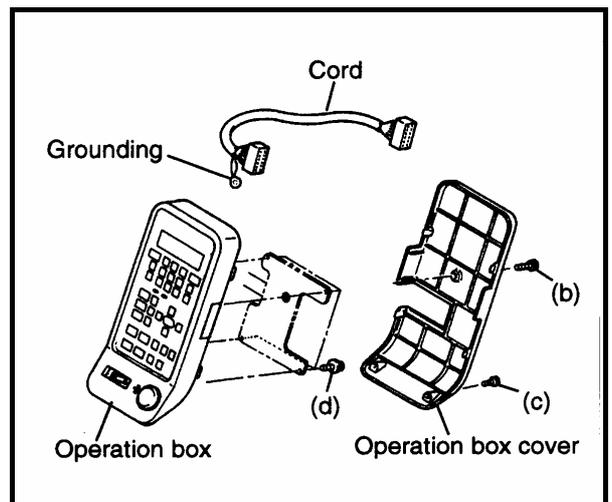

FIG.2
- (1) Plug in the cord.
- (2) Secure the operation box to the bracket with four retaining screws (d). One of these screws is for grounding (Fig.2).
- (3) Fix the upper shaft sensor set with two setting screws (c) in the position where the center of the sensor comes to the center of the rotation detecting plate. (Figs.2, 4)
- (4) Bundle the cords with cable tie.
- (5) Set the DS1-1 on and turn the power on. Rotate the hand wheel to move the needle bar to the bottom dead center. Check that the LCD display shows the needle position at 180°.